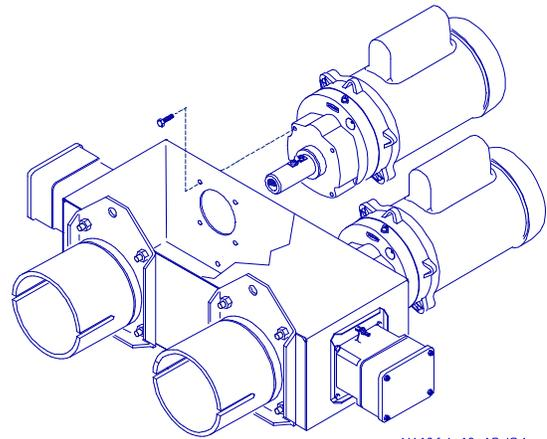

Figure 3.
4. Mount the Power Units (not supplied) on the Control Unit Body, opposite the Anchor Tube Weldments, using 5/16-18 hardware. See Figure 3.